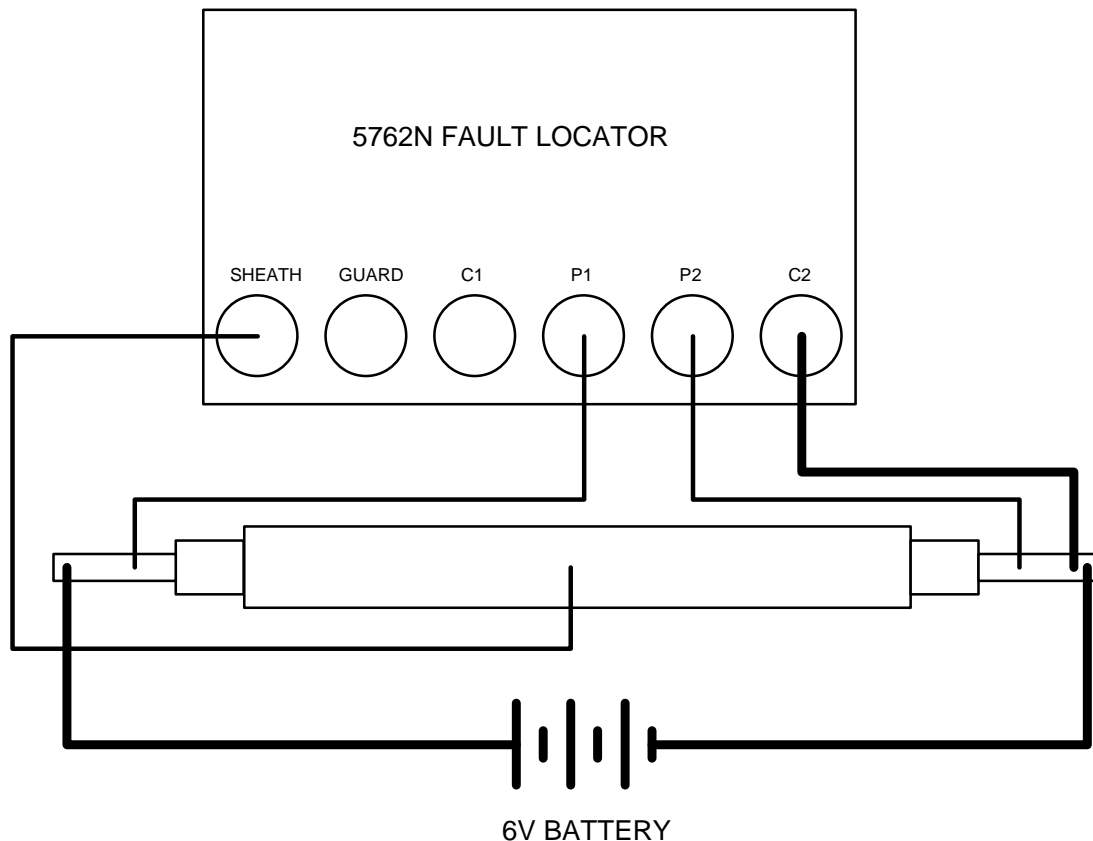

Figure 5: Use of external battery
8.4 Using an external battery for cables of very low resistance (Fig 5)